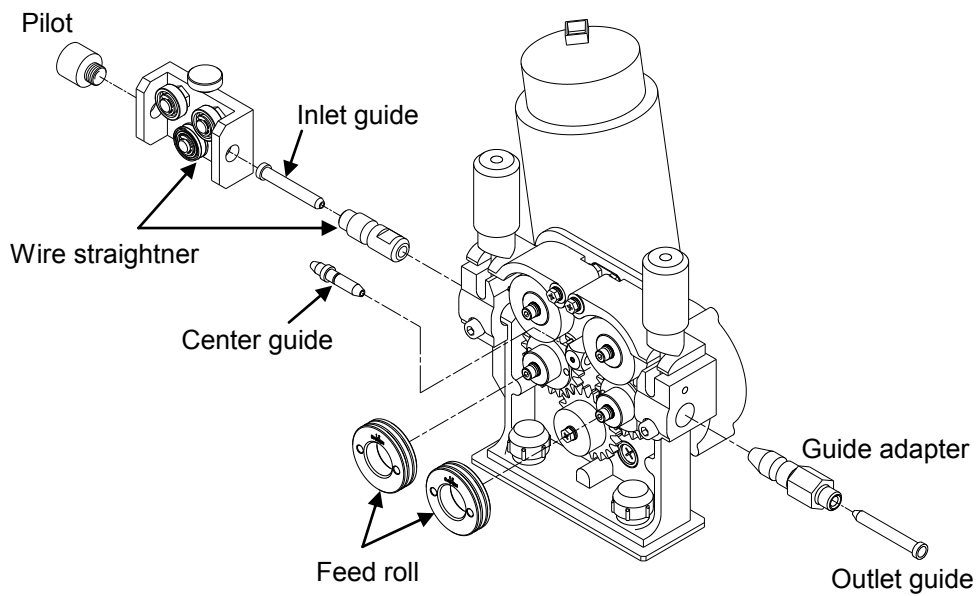

Fig.3 Optional parts (assembly)
(2) Feed roll·Pressure roll (Fig.3)
(3) Center guide·Outlet guide·Guide adapter (Fig.3) (Outlet guides include E type snap ring)
(4) Parts for wire straightner (Fig.3)